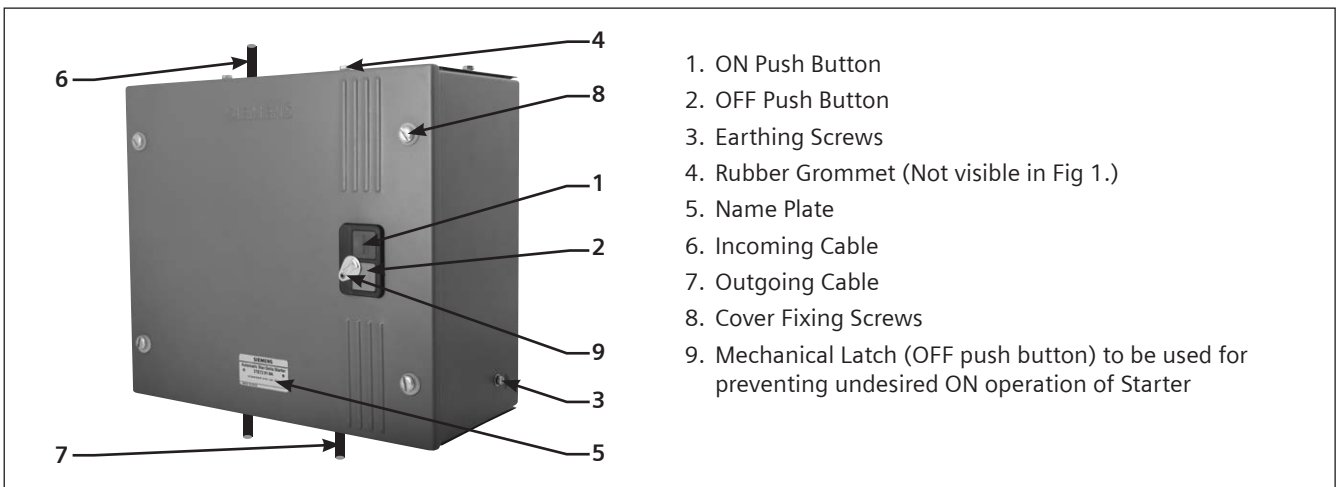

Fig. 1: ASD-11 Starter
- First start the motor by pressing the 'ON' button shown in Fig. 1
- For starting the motor, press Green push button marked 'I' (Fig. 1)
- For stopping the motor press Red push button marked 'O' (Fig. 1)